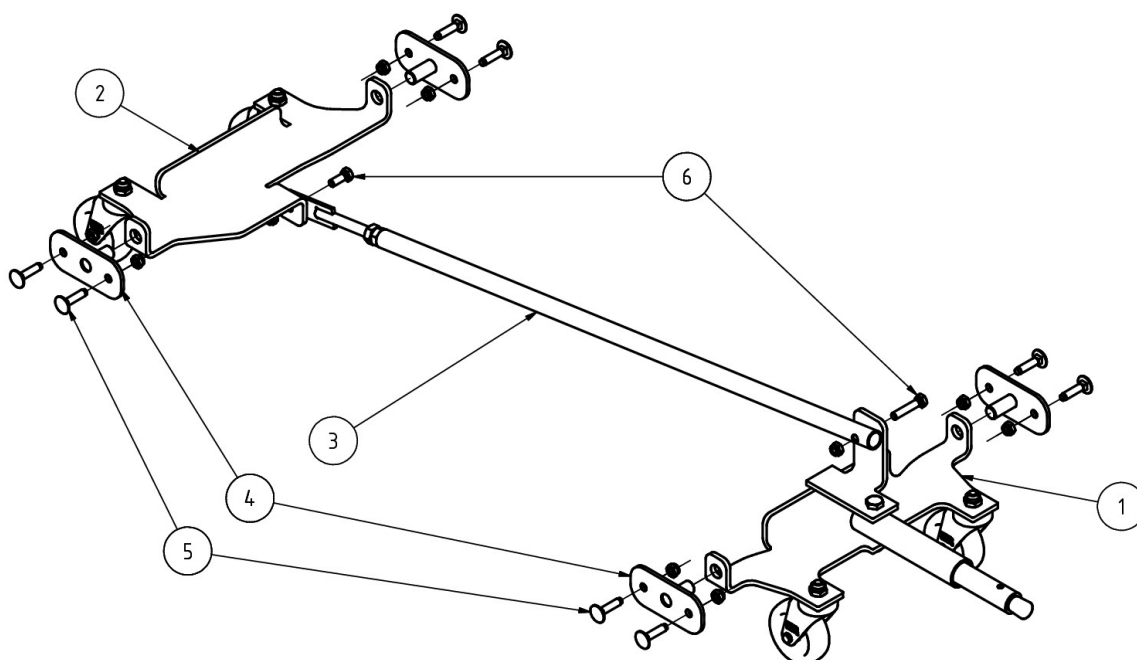

Fig. 2: Sport-Thieme swivel castor device
To fit the swivel castor device (Fig. 2), first insert the axle bearings ④ into the tube ends of the two wheel sets ① and ②. Then place the wheel sets ① and ② together with the axle bearings ④ in the lower part of the box. Insert the telescopic handle into the recess provided in the end wall.